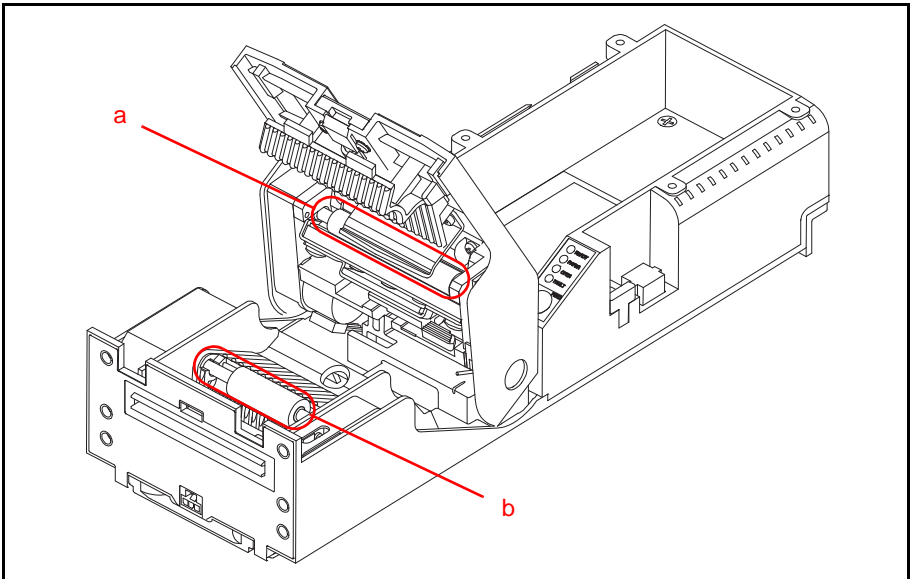

Figure 7 Clean Print Head Rollers and Feed Rollers
6. To clean the Print Head Rollers (Figure 7 a) and the Presenter Assembly's Feed Rollers (Figure 7 b), turn the Rollers by hand while wiping them with a new Cleaning Wipe or a clean Microfiber cloth (slightly dampened with Isopropyl Alcohol).